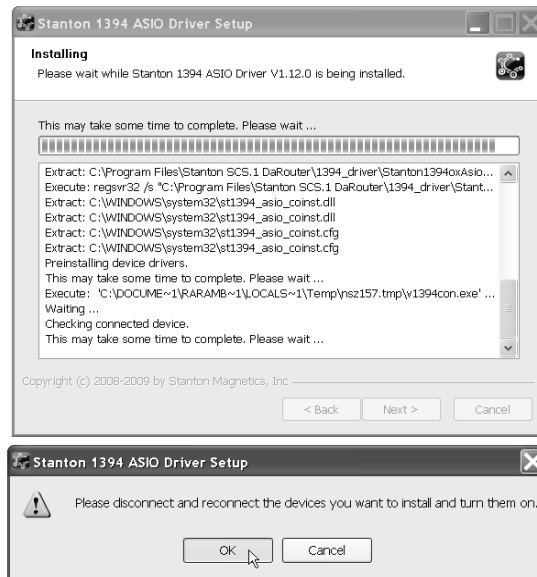

Figure 4.6
- Please wait while Stanton 1394 ASIO Driver is being installed, and then turn your SCS.1 controllers ON and click **OK**. (Figure 4.6)